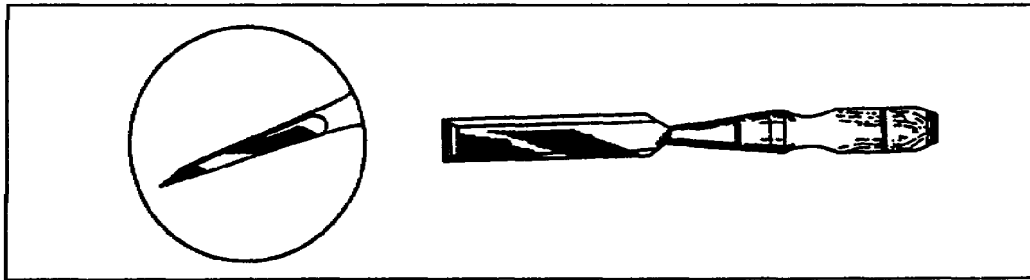

Figure 2-19. Framing chisel
(3) Framing Chisel. A framing (or *mortise*) chisel (Figure 2-19) is a heavy-duty tool, which is used for heavy work. These chisels have an iron ring fitted to the end of the handle to prevent splitting when it is struck with a heavy mallet.